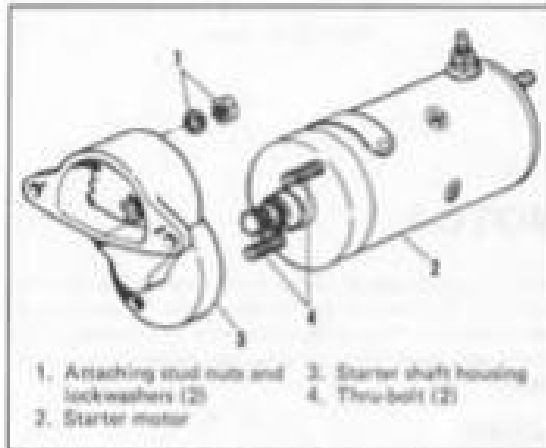

Figure 5-26. Removing Starter Motor
Disconnect solenoid cable from starter motor terminal. Remove attaching nuts and lockwashers (1, figure 5-26) which fasten starter motor housing (3) to studs on chain housing. Remove starter motor and support plate (not shown) from transmission. It may be necessary to loosen and raise battery carrier to provide clearance. Remove